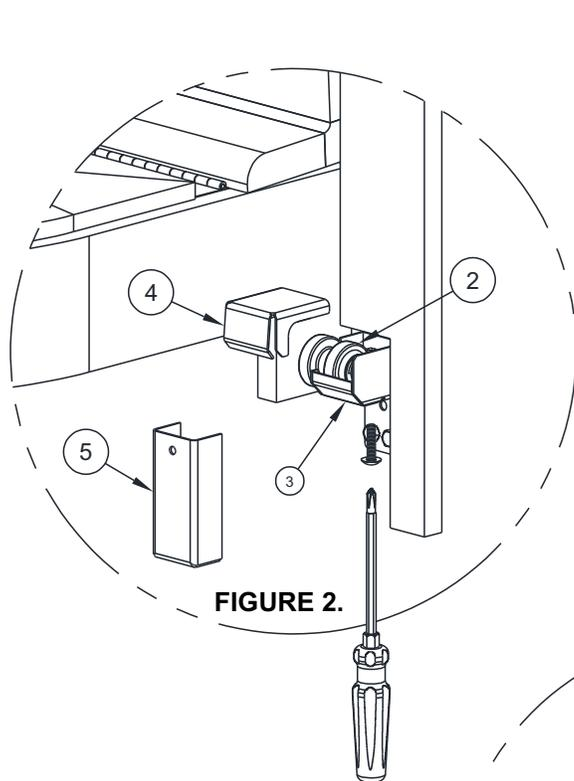

FIGURE 2.
- C. Remove Countertop [5], Access Doors and Panels [6] Re-install Flush Valve Access Panel [2]. **FIGURE 2**
- H. Install Countertop [5] to Frame by attaching as required using appropriate mounting hardware (By Others) as shown. **FIGURE 2**